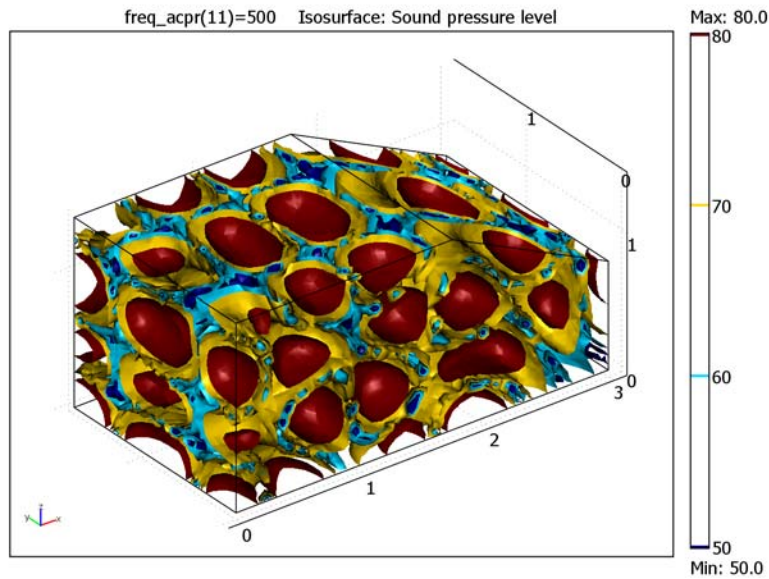

Figure 3-10: Isosurface plot of the sound pressure level in dB at 500 Hz.
- 9 Click **OK** to generate the plot, then click the **Headlight** button on the Camera toolbar to get a clearer view. The plot should resemble that in Figure 3-10.